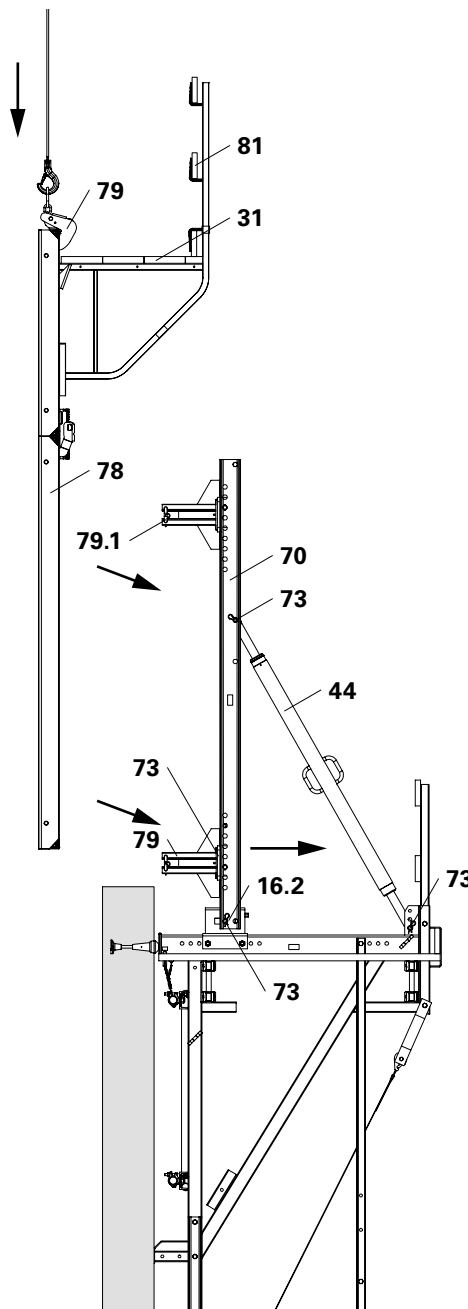

Fig. B2.19
2. Fix Connectors TRIO-CB (79) to the Strongback CB (70) using Bolts $\varnothing$ 25x180 (73) and Cotter Pins 4/1.
3. Fix Strongback CB to the Adjusting Unit CB by means of Bolts $\varnothing$ 25x180 (73) and Cotter Pins 4/1. $\varnothing$ 25x180 (73) and Cotter Pins 4/1.
4. Fix Adjustable Brace CB 164-224 (44) to the bracket and Strongback CB using Bolts $\varnothing$ 25x180 (73) and Cotter Pins 4/1.
5. Brace Strongbacks laterally. (Fig. B2.19)